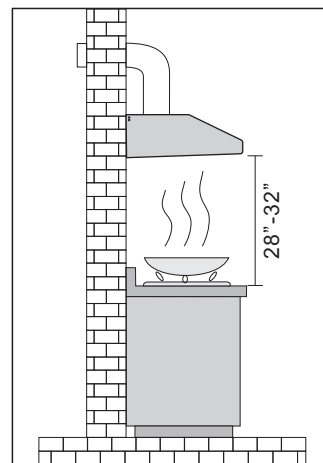

Fig.4
4. When installed, the bottom edge of your range hood should be 28" ~ 32" above the top of the cooking surface. (Fig.4)